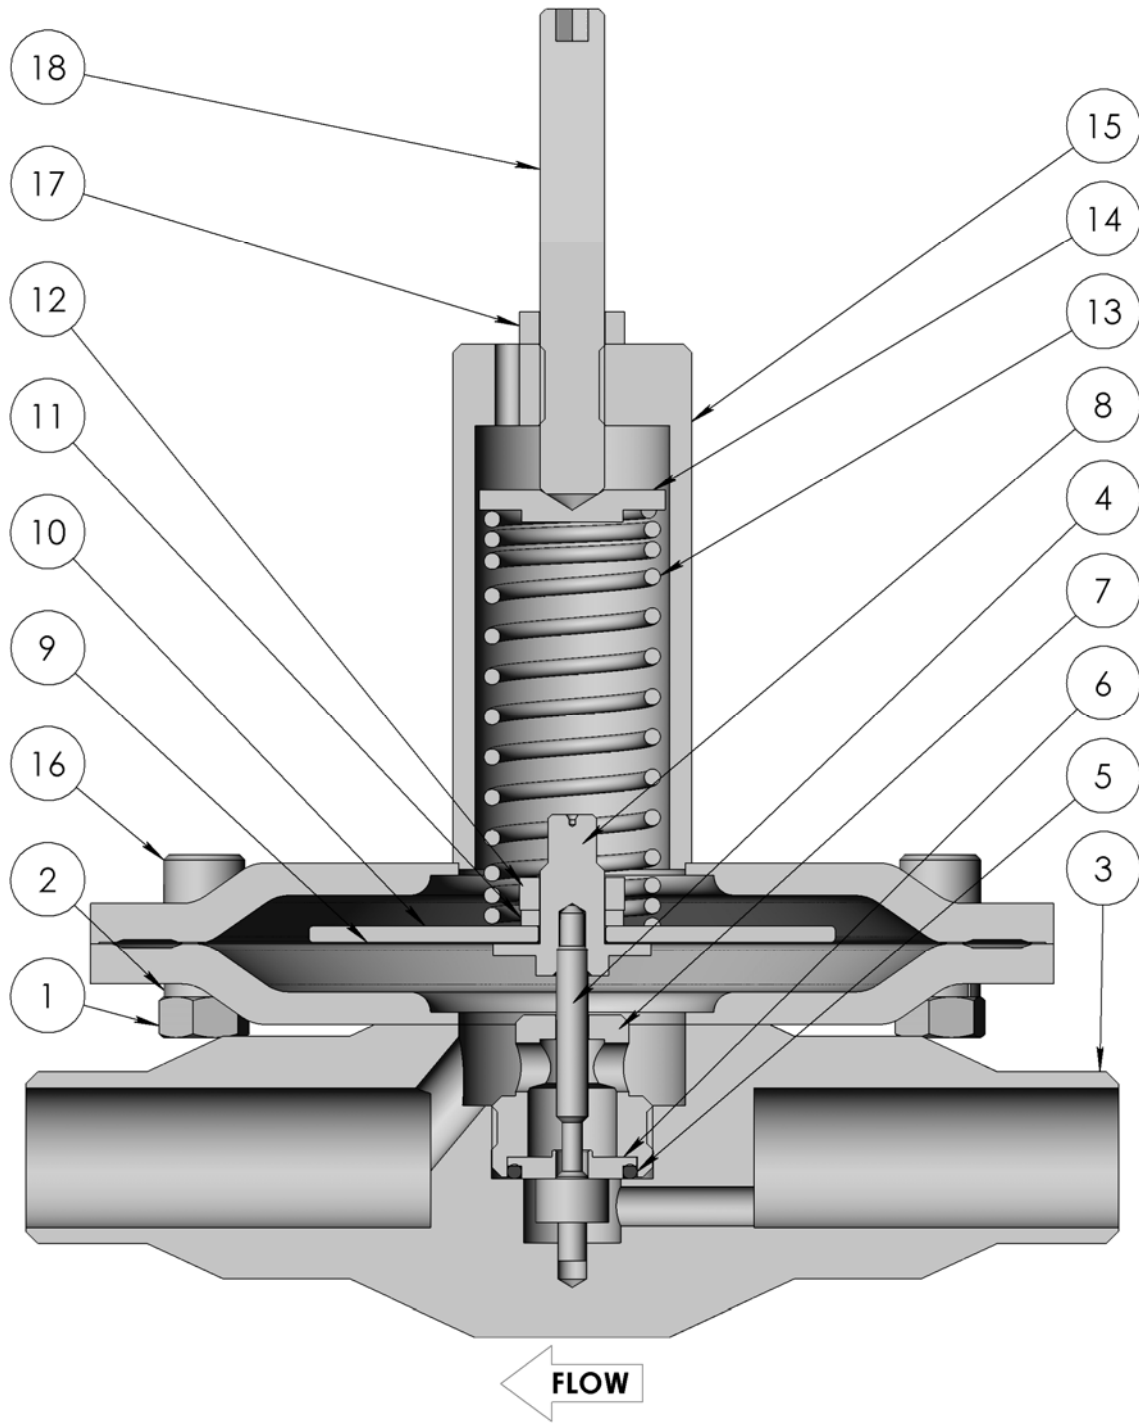

Fig 2
- The preferred mounting position of the regulator is horizontal with the spring housing facing upwards per Fig 2. Alternative mounting positions may increase the risk of component wear.
1. Secure the body (3) in a vise.
2. Lightly lubricate the central hole of the seat retainer (7).
3. Place the seat (6) and seat retainer (7) over the poppet (4), oriented per Fig 2.
4. Lightly lubricate the poppet thread (4), then fit the clamp ring (8). Torque to 3.5 lbf·ft (5 N·m).
5. Insert the seat seal (5) on to the seat (6).
6. Lightly lubricate the seat retainer thread (7) then install into the body (3) and torque to 7 lbf·ft (10 N·m).
7. Place the diaphragm (9) then diaphragm plate (10) on to the clamp ring (8).
8. Lightly lubricate the clamp ring thread (8) then retain using the lock washer (11) and nut (12). Torque to 3.5 lbf·ft (5 N·m).
9. Lubricate the central recess of the spring guide (14).
10. Stack the set spring (13) and spring guide (14) onto the diaphragm plate (10).
11. Place the spring housing assembly (15) over the spring (13).
12. Lightly lubricate the cap screws (16). Secure the spring housing assembly (15) to the body (3) using the cap screws (16), washers (2), and nuts (1). Torque to 7 lbf·ft (10 N·m).
13. Lightly lubricate the set screw (18) thread. Fit the nut (17) onto the set screw (18) and install it into the top of the spring housing assembly (15).